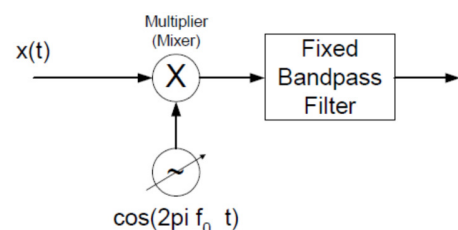

Figure 1: Frequency Mixing, or Heterodyning
Now instead of a bank of narrow filters, we shall have one narrow filter centered at a fixed frequency, say  $f_1$ , and we shall scan the signal spectrum across this filter by multiplying  $x(t)$  by a sinusoid of varying frequency  $f_0$  (See Figure 1). The filter is a narrow bandpass filter at a fixed center frequency,  $f_1$ , (called the intermediate frequency); in a spectrum analyzer, its bandwidth is selected by the user. The oscillator frequency,  $f_0$ , is adjustable, as indicated in Figure 1. In an ordinary AM or FM radio, when you tune the receiver you are selecting this
Of course, much more signal conditioning is going on inside the spectrum analyzer than is indicated in Figure 1; but the frequency mixing is the fundamental step. In particular, the signal first is passed through a lowpass filter whose bandwidth is chosen to eliminate image frequencies. Also, most scanning spectrum analyzers are multiple conversion analyzers - they have multiple intermediate frequency stages, at successively lower frequencies. The reason is that we have two conflicting goals to achieve; we would like to have the filter bandwidth as small as feasible, and we would like to be able to scan over large frequency ranges. It is hard to build sharp narrow filters at high frequencies, but it is also hard to build multipliers that will work over large frequency ranges. Therefore, we achieve narrow filters at low intermediate frequencies by shifting the frequency down in several steps.
In normal operation the frequency control selects the range that the variable oscillator in Figure 1 sweeps through. Pressing the FREQUENCY button causes the frequency menu to appear on the screen. You can select the CENTER frequency (CF) and the START and STOP frequencies. You select the numerical values by turning the control knob, pressing the up/down arrows or by entering the value with the numerical keypad.
The resolution bandwidth is essentially the bandwidth of the fixed narrowband filter in Figure 1. (In reality, there are several stages of filtering.) Pressing the BW/Avg button displays the menu from which you can select the resolution bandwidth, the video bandwidth, and associated controls. Note that you cannot select a continuous range of RBW-there is only a finite selection available.
900MHz. However, if the RBW is decreased, another signal at 899.5MHz may also be present (and thus will show up on the display). The AUTO button allows the spectrum analyzer to automatically select the RBW – manual selection is done with the UP/DOWN arrows – the AUTO button allows you to toggle between auto and manual RBW selection. Video Bandwidth (VBW) is basically a smoothing filter with a bandwidth equal to the RBW. VBW essentially reduces the noise displayed, making the power levels easier to see. VID FLTR button allows you to change the VBW. The sweep control is usually controlled by the spectrum analyzer (the rate at which different frequencies,  $f_0$  in Figure 1, are changed) but you can change
1. Connect the DC power supply to the AM transmitter board using the diagram shown in figure 1.